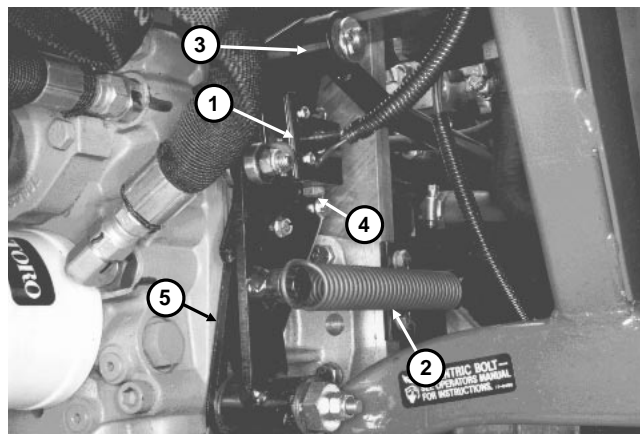

Figure 29
2. Disconnect wiring harness from traction neutral switch (Fig. 29, 30).
6. Remove four (4) capscrews securing traction plate to transmission housing. Remove transmission control assembly from transmission.